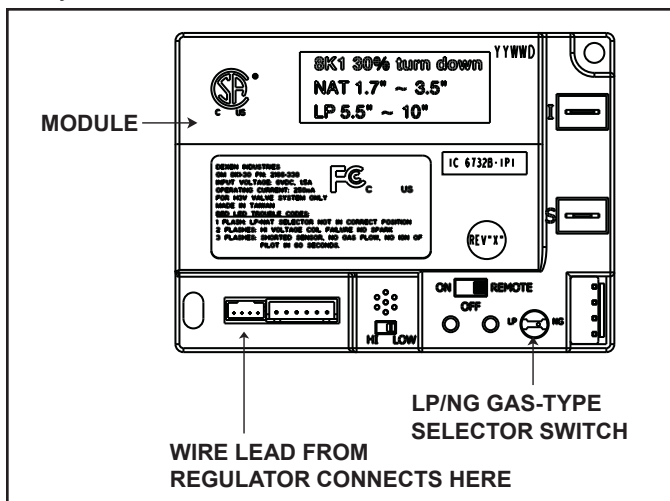

Figure 3.4 Control Module
1. The control module has an ON/OFF/REMOTE selector switch that must be set. See Figure 3.4.